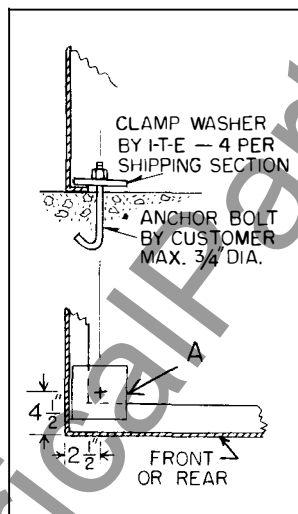

Fig. 2
4. With a crane and the lifting lugs, lift shipping section off skid and place over anchor bolts in proper position. Bolt down. Note square washers (A) should be used to hold assembly to floor, Fig. 2 (Anchor bolts and nuts, by customer, mounted as shown).